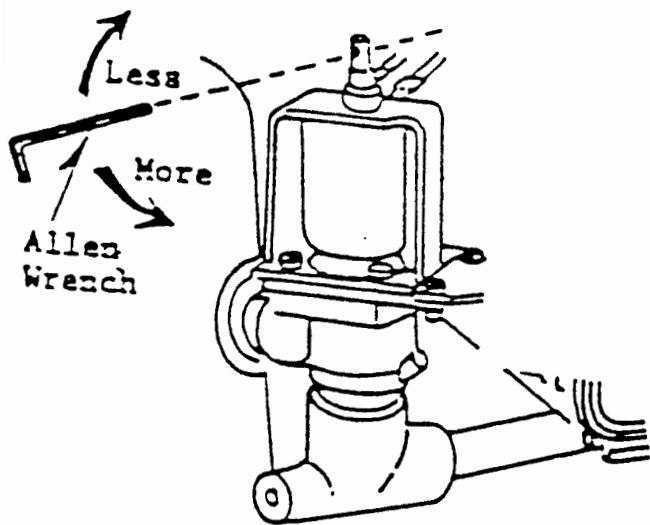

Fig. 1
1. **RATIO CONTROL - POWDER TO WATER** The ratio is controlled by the water adjustment screw located on the top of the solenoid valve behind the left hand upper panel (see Fig. 1).